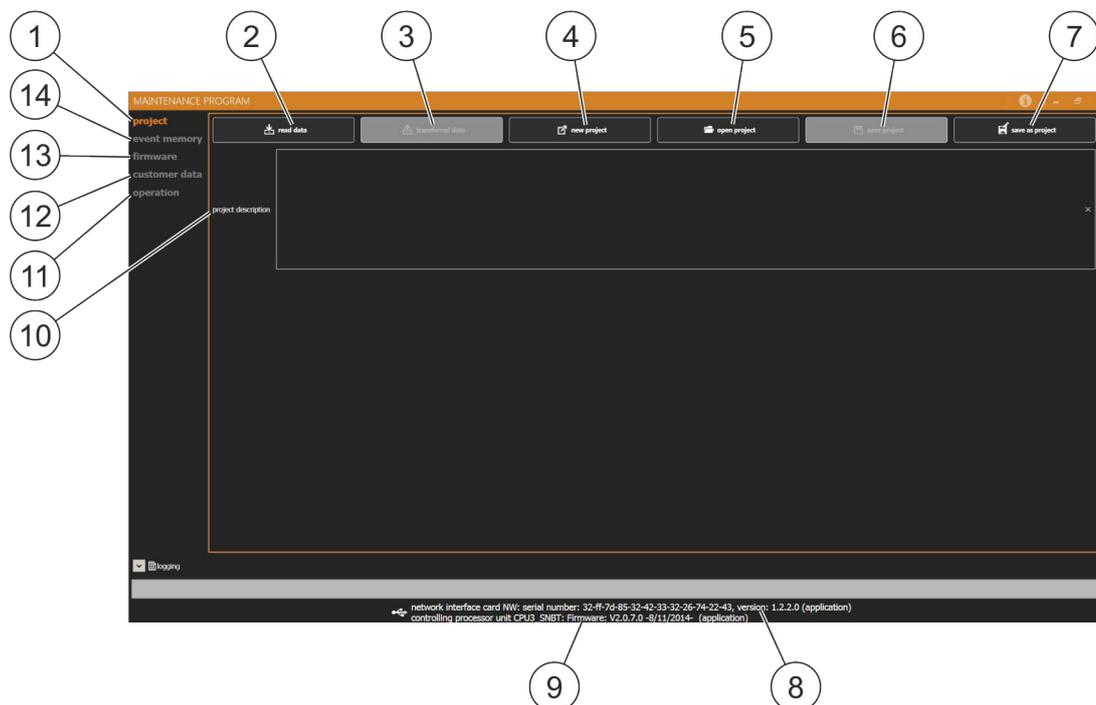

Fig. 44: Maintenance program homepage
- Project (Fig. 44/1) ↪ *Chapter 10.3 “Project” on page 60*
- Read data (Fig. 44/2) (gray background, if no system is connected)
- Transfer data (Fig. 44/3) (gray background, if no data has been imported yet)
- New project (Fig. 44/4)
- Open project (Fig. 44/5)
- Save project (Fig. 44/6) (gray background, if no project was opened previously)
- Save project as (Fig. 44/7)
- Event memory (Fig. 44/14) ↪ *Chapter 10.4 “Event memory” on page 60*
- Firmware (Fig. 44/13) ↪ *Chapter 10.5 “Firmware” on page 60*
- Customer data (Fig. 44/12) ↪ *Chapter 10.6 “Customer data” on page 61*
- Operation (Fig. 44/11) ↪ *Chapter 10.7 “Operation” on page 63*
- Network Interface Card serial number, Network Interface Card version number (Fig. 44/8)
- Firmware version (Fig. 44/9)
- The project can be described in the project description (Fig. 44/10).